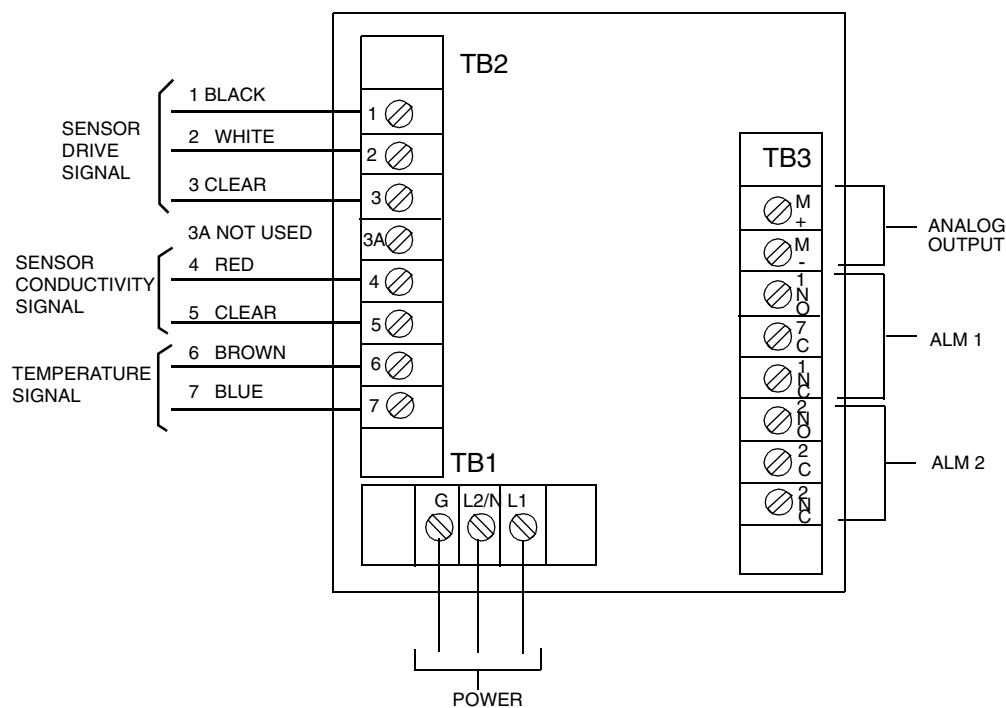

Figure 10. Rear Panel Wiring - Plastic Enclosure
2. Connect ALM 1 and ALM 2 alarm wires to TB3 as shown in Figure 10. Failsafe operation requires connections to be made between contacts NC and C. Also see “Wiring of Alarms” on page 21.
3. Connect wires from external circuit for analog output to terminals TB3 (M+) and TB3 (M-). Refer to Figure 10.
5. Connect sensor wires to analyzer terminal block TB2 as shown in Figure 10.
6. Connect power wires to terminal block TB1 as shown in Figure 10.